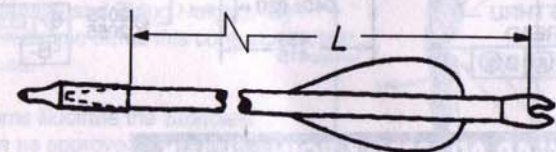

FIG 2. Arrow Assembly Having the Front End of the Shaft Tapered or Swaged.
2. For arrows having the front end of the shaft tapered or swaged, the designated point is the most forward extension of the full diameter of the shaft (Fig 2, p.13).